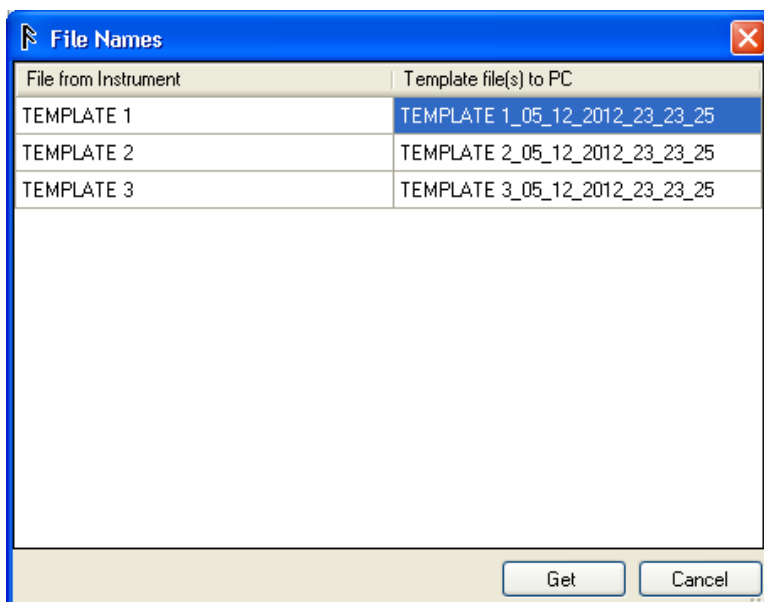

Figure 6-7. File Name Dialog Box
3. Click the download () button. The File Names dialog box in Figure 6-7 shows in the display.